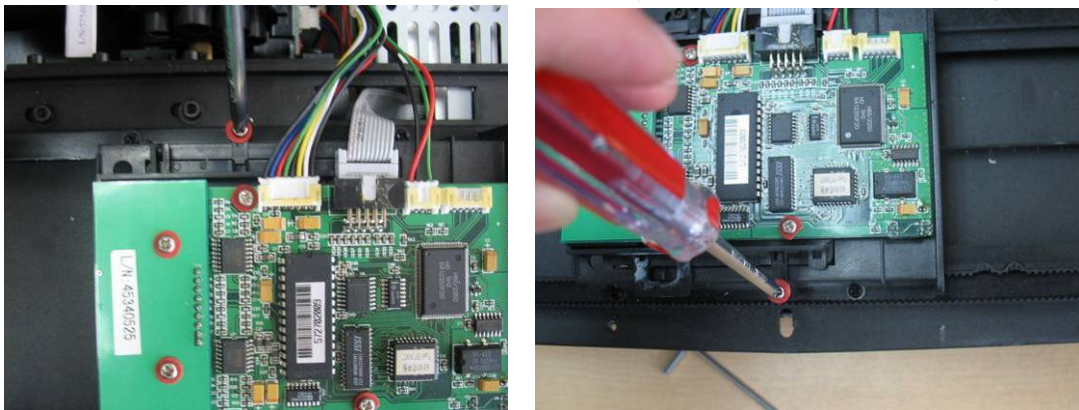

Figure 3-32
- 3、 Remove the two screws which fix the front board by cross screwdriver M3, as figure 3-32.